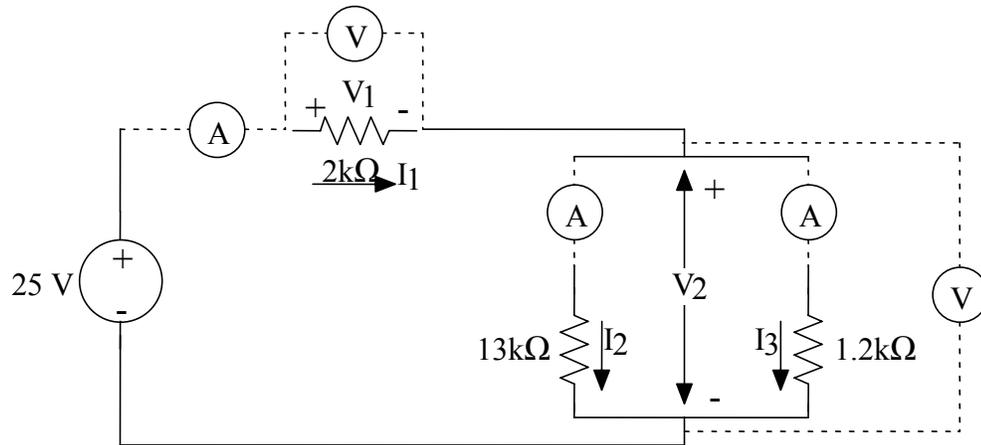

Figure 11. Current divider circuit.
- 1) Build the circuit shown in Figure 11. Start by inserting the resistors into the breadboard so that they are connected in the series/parallel combination shown. Before connecting the power supply, make sure that the output is 25V using the DMM. Turn the output off and connect the DMM in series with the resistor circuit (Figure 11) to measure the total current, I_1 .
- 4) Connect the resistor circuit directly to the power supply. Use the DMM to measure the input voltage to the circuit. Then use the DMM to measure the two voltages V_1 and V_2 shown in Figure 11, i.e., across the $2\text{k}\Omega$ resistor and across the parallel combination of the $13\text{k}\Omega$ and $1.2\text{k}\Omega$. Record your results in Data Table 3, then turn off the power supply output when you are done.